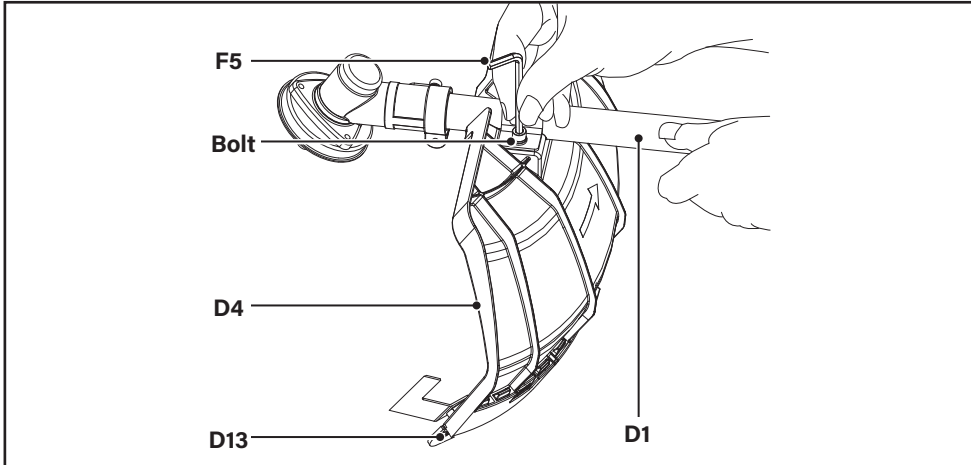

Fig. 7
2. Attach the cutting-attachment guard (D4) with the trimming guard (D13) onto the plate on the shaft tube (D1). Use the hex key (F5) to secure the parts with the 2 bolts (Fig. 7).